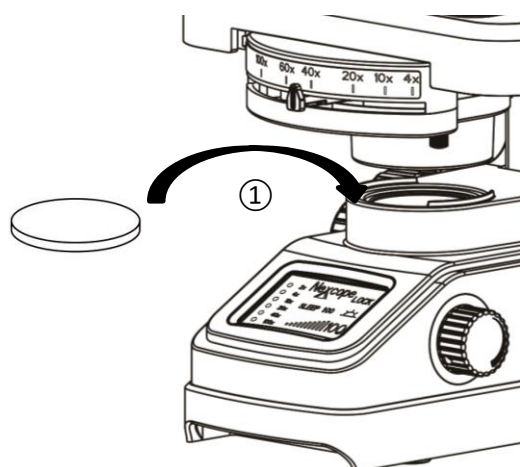

Fig.5
### 3-2-5 Install the Filter (Fig.5)
Put the filter in the seat of illuminator according to the path ① shown in Fig.5 .